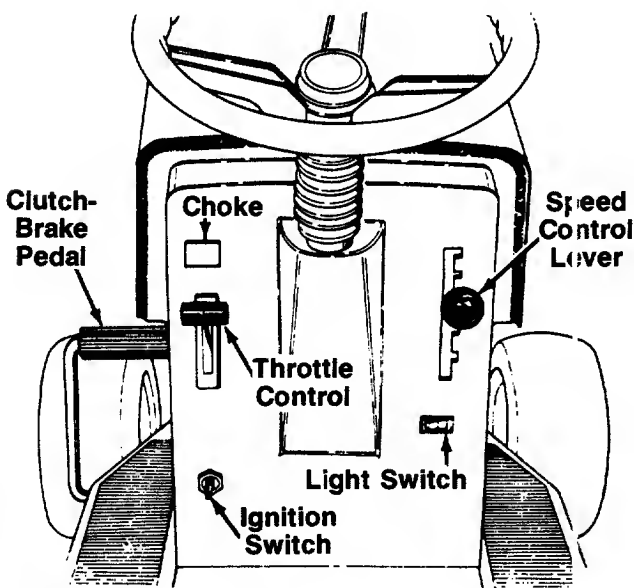

FIGURE 11.
The throttle control is used to regulate the engine speed. To get maximum efficiency from cutting, the throttle should be in the FAST position when operating the mower. See figure 11.
The choke control is located on the dashboard and is operated manually. Details for the choke operation are covered in the separate engine manual packed with your unit. See figure 11.
The speed control lever allows you to regulate the ground speed of the lawn tractor. See figure 11. To select the ground speed, depress clutch pedal. Push speed control lever inward and move downward to slow lawn tractor, move upward to increase speed. When desired speed has been obtained, release lever in that position. Whenever clutch is engaged, unit will automatically go to the pre-set speed.
Turn the key to the START position to start the engine. When the engine is running, let the key return to the ON position. To stop the engine, turn the key to the left to the OFF position and remove it to prevent accidental starting. See figure 11.
Push the light switch to turn on the lights. The lights will only operate when the engine is running. See figure 11.
The clutch-brake pedal is located on the left side of the lawn tractor. Depressing the clutch-brake pedal part way disengages the clutch. Pressing the pedal all the way down disengages the clutch and engages the disc brake. See figure 11.
4. Set the throttle control in the FAST position. See figure 11.
6. Turn the ignition key to the START position. When the engine is running, let the key return to the ON position. See figure 11.